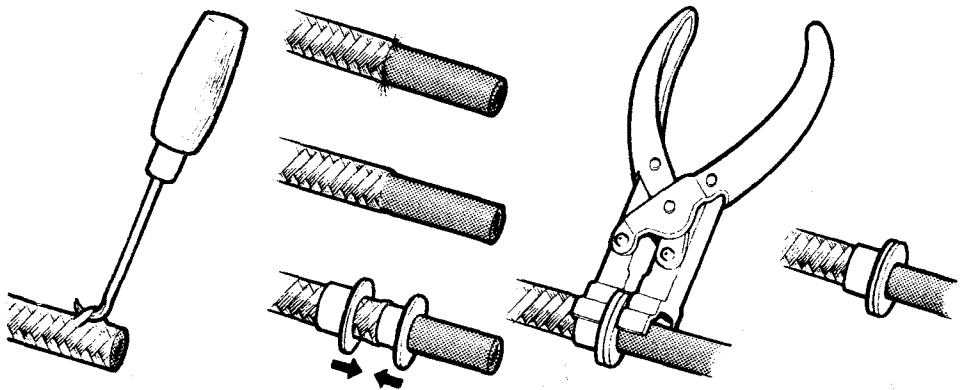

Fig. 8. Preparing a metal-sheathed cable
12. Preparation of metal-sheathed cables. The braiding is removed by a cable stripping hook and trimmed to the required length using watchmaker's shears. To prevent the ends from fraying and to obtain electrical continuity, metal ferrules are fitted using the pliers shown in Fig. 8. The outer ferrule is slid over the metal braiding. The inner ferrule is slid along the insulation to fit under the braiding. The ferrules are then clenched together with the pliers and any excess braiding is trimmed off.